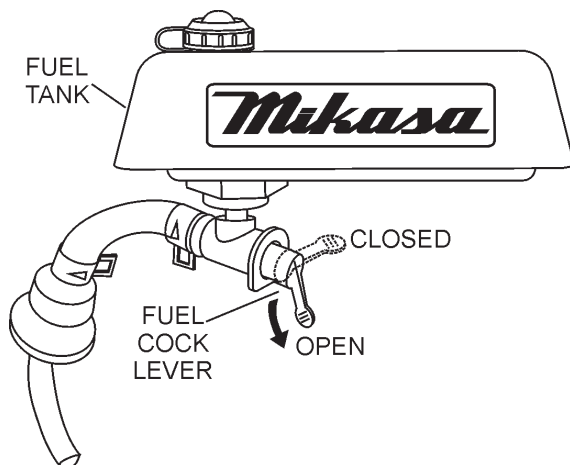

Figure 5. Fuel Shut-Off Valve (ON)
1. Open the **fuel shut-off valve** by moving the **fuel cock** lever to the **open** position (Figure 5).